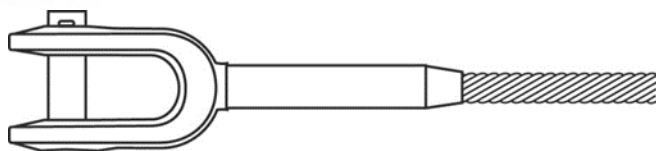

Figure 2: Insert the rope into the socket
- Insert the rope into the socket and swage the sockets with the specified dies (See Figure 2).